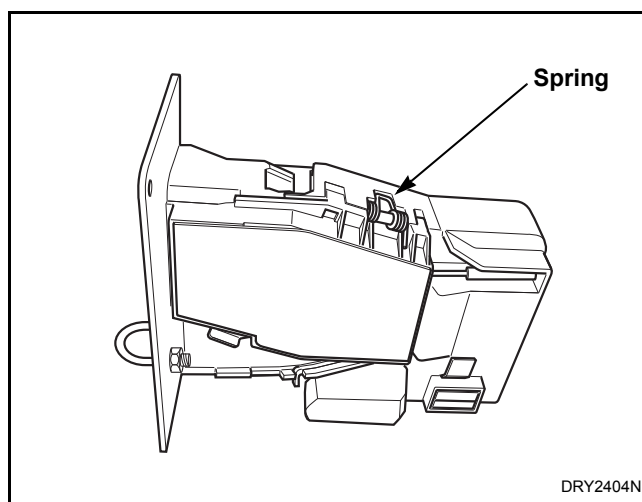

Figure 27
**Coin Drops with New-Style Spring (refer to Figure 27):**